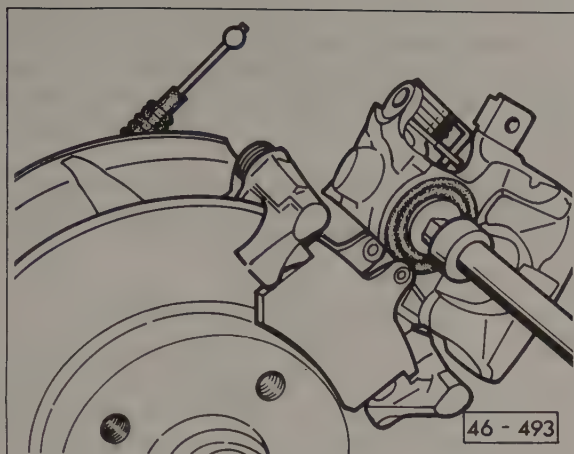

Fig. 7-4. Rear caliper piston being turned into caliper with hex wrench.
2. When installing new brake pads, adjust the caliper to provide clearance for the thicker new brake pads. Use a hex wrench in the piston socket to turn the caliper piston clockwise all the way into the caliper housing, as shown in Fig. 7-4.